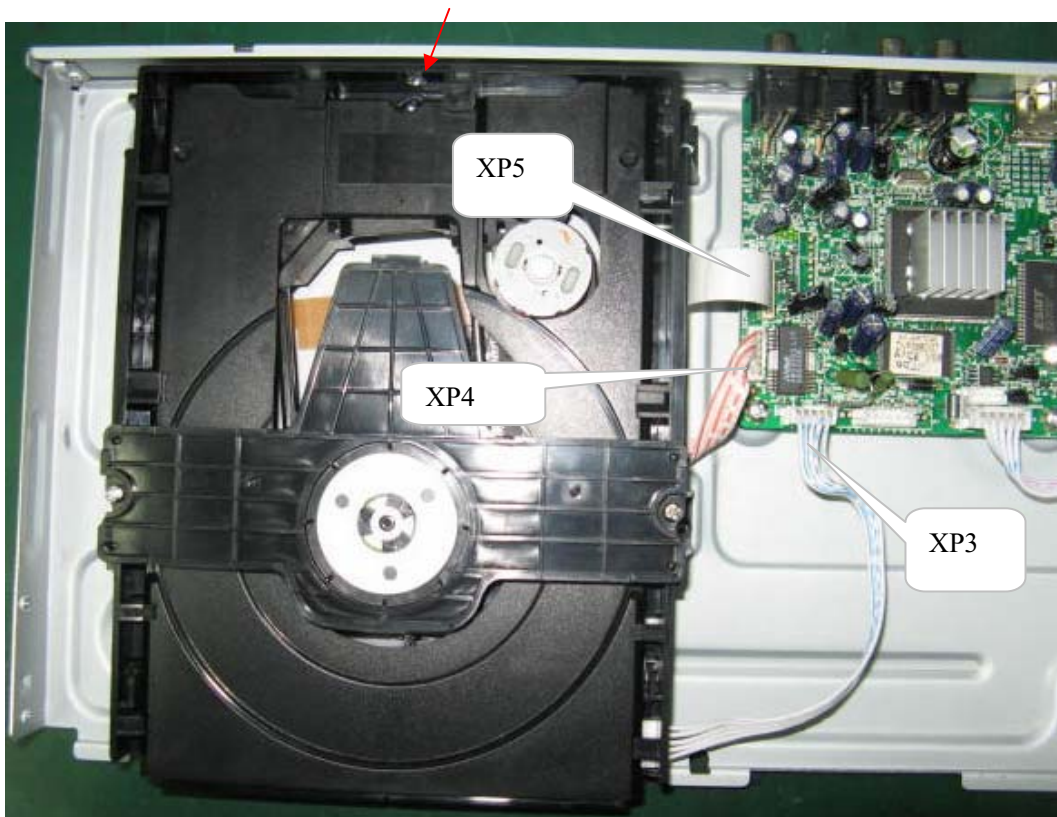

Figure 7
**Step5:** Dismantling Loader, disconnect the 3 connectors (XP3, XP4, XP5) aiming in the below figure, and remove 1 screw that connects the loader and the bottom cabinet. (Figure 7)